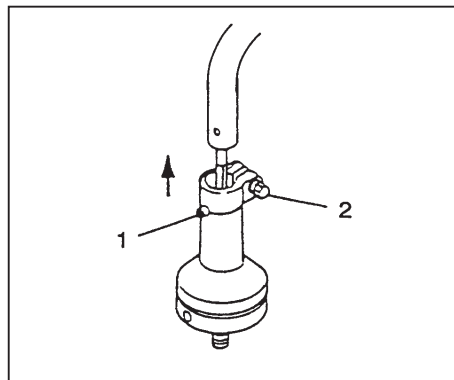

Fig. 3-5
**Flexible drive shaft (Fig.3-5)**